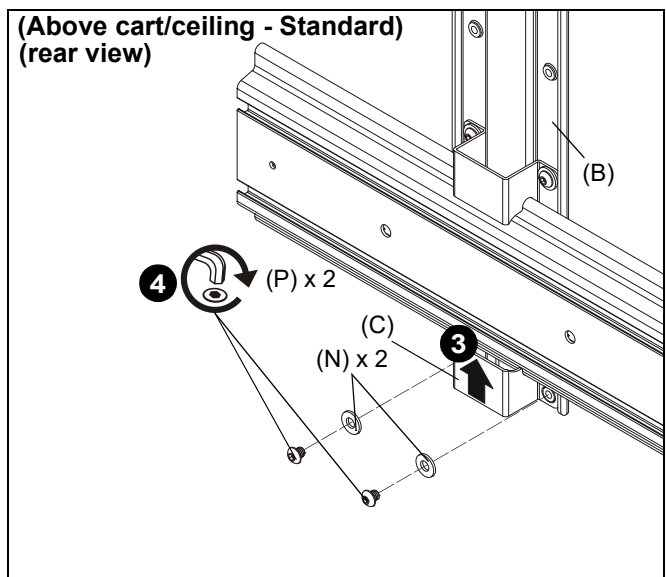

Figure 18
3. Slide second shelf bracket (C) underneath head assembly, lining up holes on shelf bracket (C) to holes on main bracket (B). (See Figure 18)
4. Use two 1/4-20 x 1/4" button head cap screws (P) and two large washers (N) to secure shelf bracket (C) to main bracket (B). (See Figure 18)